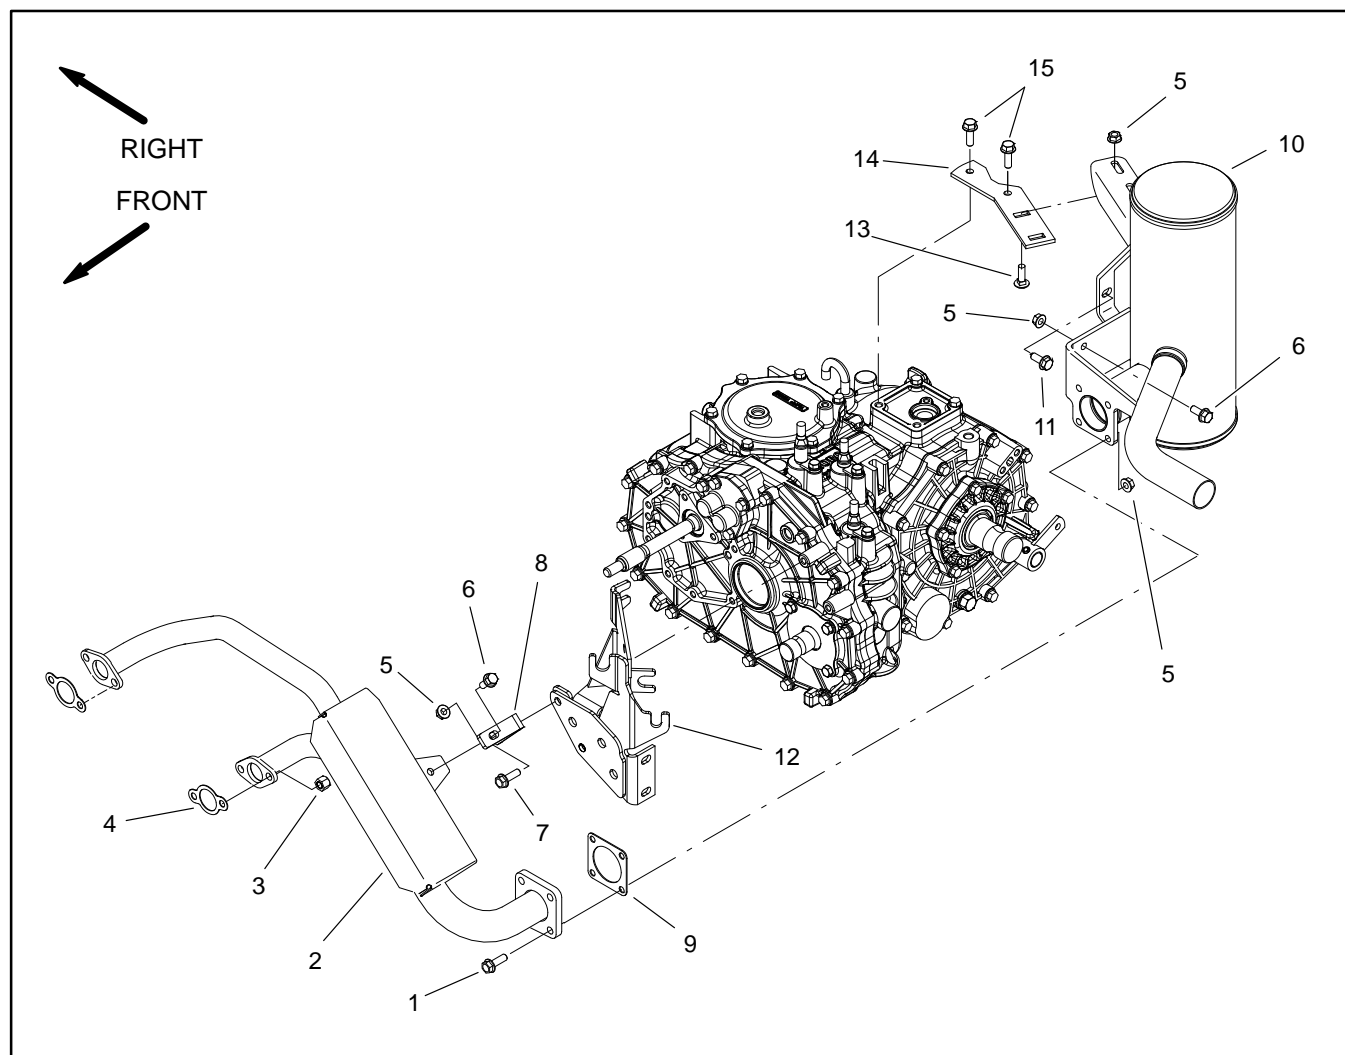

Figure 2
Removal (Fig. 2)
3. Remove exhaust system components (Fig. 2).
Installation (Fig. 2)
2. Fit all exhaust components to vehicle before tightening any fasteners (Fig. 2). When securing exhaust, tighten fasteners in the following order: